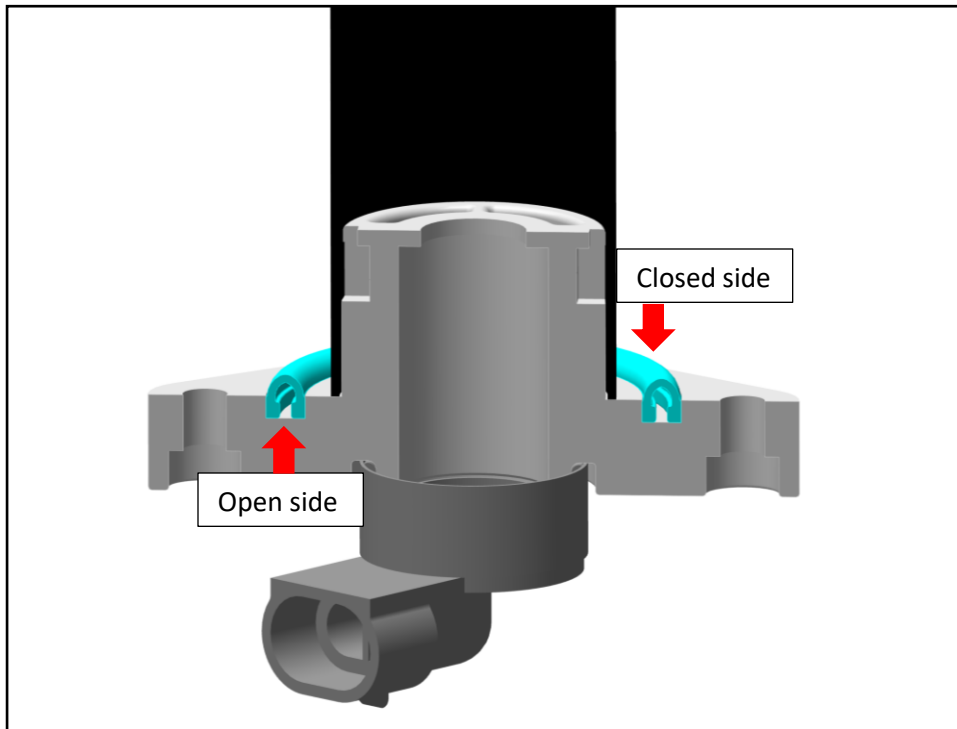

Fig. 10
14. Install the fuel level sensor and torque the bolts 3 Nm. The gasket must be installed so the open side of the gasket faces towards the sensor and the closed rounded side faces towards the tank (Figure 10).